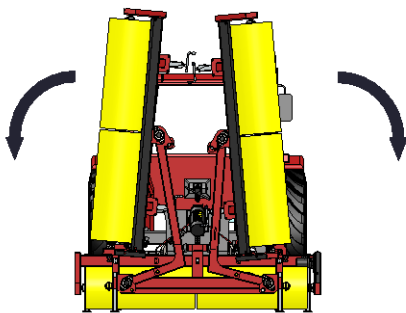

Figure 4
2. Lower the wings (figure 4) of the TOP BRUSH slowly until they completely down (figure 5).